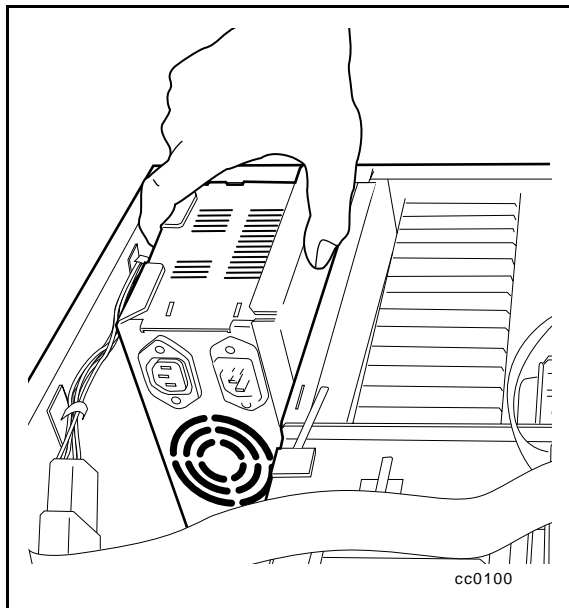

Figure 5-30. Removing the power supply
13. Lift out the power supply assembly out and then lay it on the magazine side, being careful not to bump the shuttle mechanism (see Figure 5-30).
1. Place the power supply in the Library chassis (see Figure 5-30).